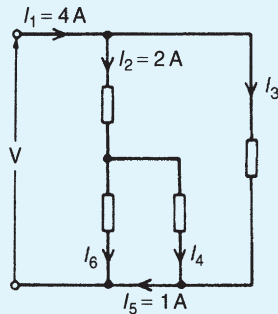

Figure 13.11
- Find currents  $I_3$ ,  $I_4$  and  $I_6$  in Fig. 13.11